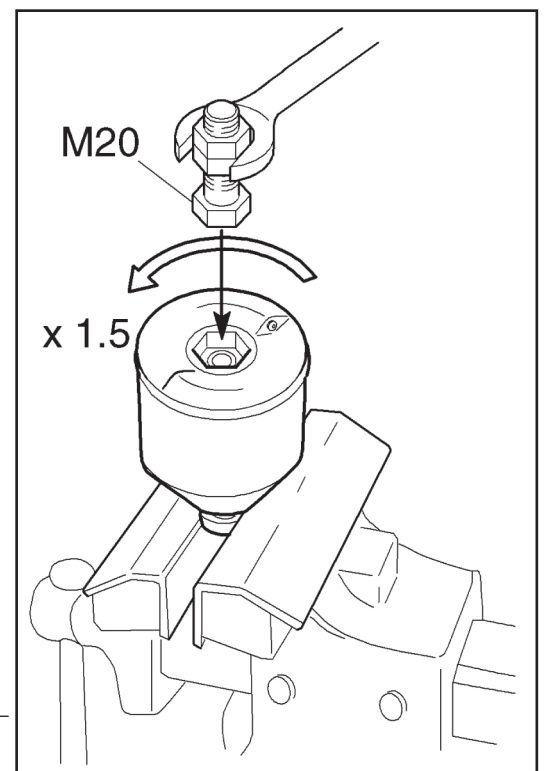

Figure 235
11. Position a ring spanner on the lower nut and turn the rotor 1.5 turns anti-clockwise."Figure 235".